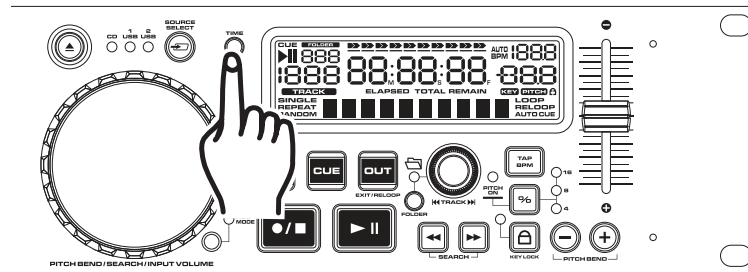

Figure 13
The time may be displayed in three different modes; Total Remain, Remain, and Elapsed. During normal playback, pressing the *TIME BUTTON* (5) as in figure 13, will change the time display information (29) in the LCD. The following is a break down of the time settings and their definitions:
- 1) TOTAL REMAIN (34) - This details the time in the *LCD* as the current CDs' total remaining time.
- 2) REMAIN (34) - This details the time in the *LCD* as the current tracks' remaining running time.
**TIME BAR INDICATOR** - The time bar in the LCD visually details the time defined in the *TIME METER* (30). This bar is also dependent on the selected time function; *REMAIN* (38) or *TOTAL REMAIN* (38). This bar will begin to flash when 15 seconds of a track remain and will begin to rapidly flash when three seconds of a track remain. The flashing bar is a great visual reminder a track is about to end. The flashing bar will function regardless of which time mode the unit is in.